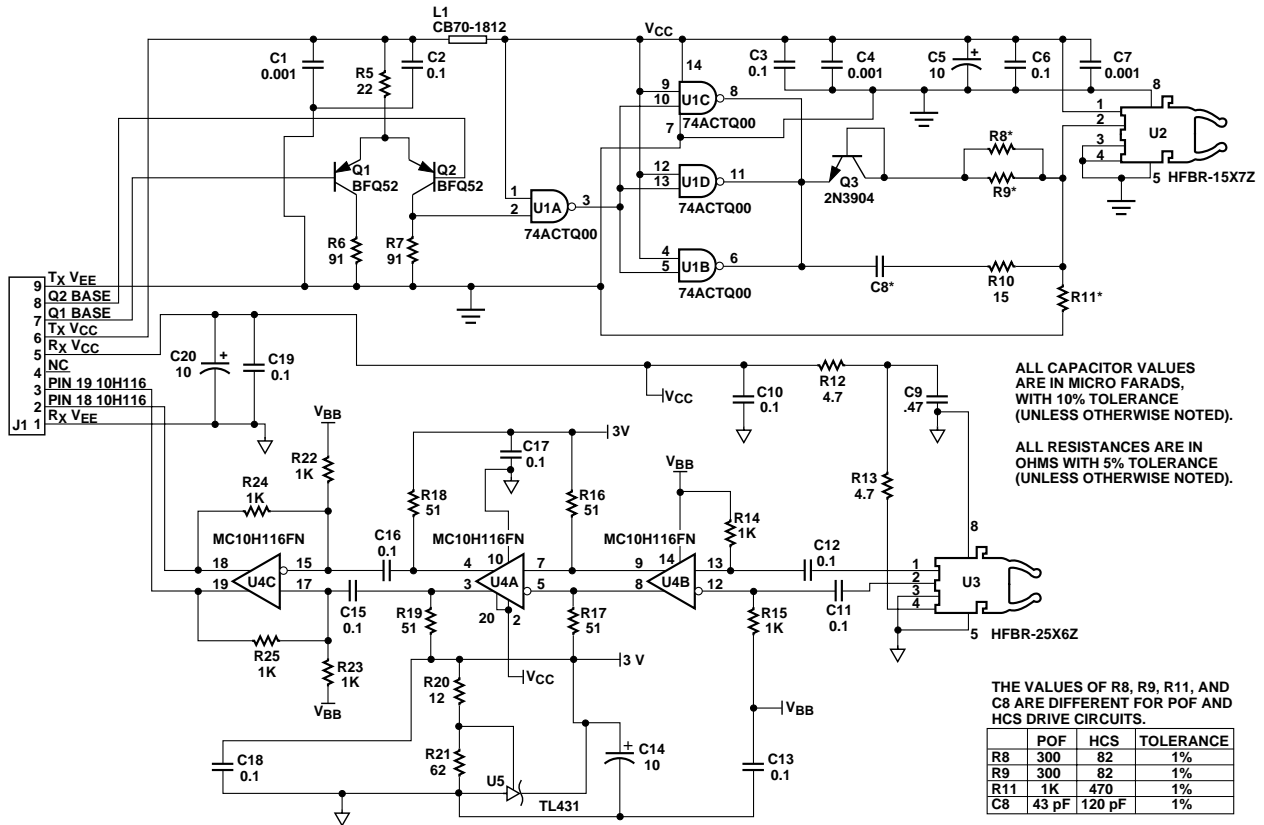

Figure 1. Transmitter and receiver application circuit with +5 V ECL inputs and outputs.
**Plastic and Hard Clad Silica Optical Fiber Receiver Application Circuit:** Performance[4] of the HFBR-25X6Z receiver in the recommended application circuit (Figure 1); 1-125 MBd, 25°C unless otherwise stated.